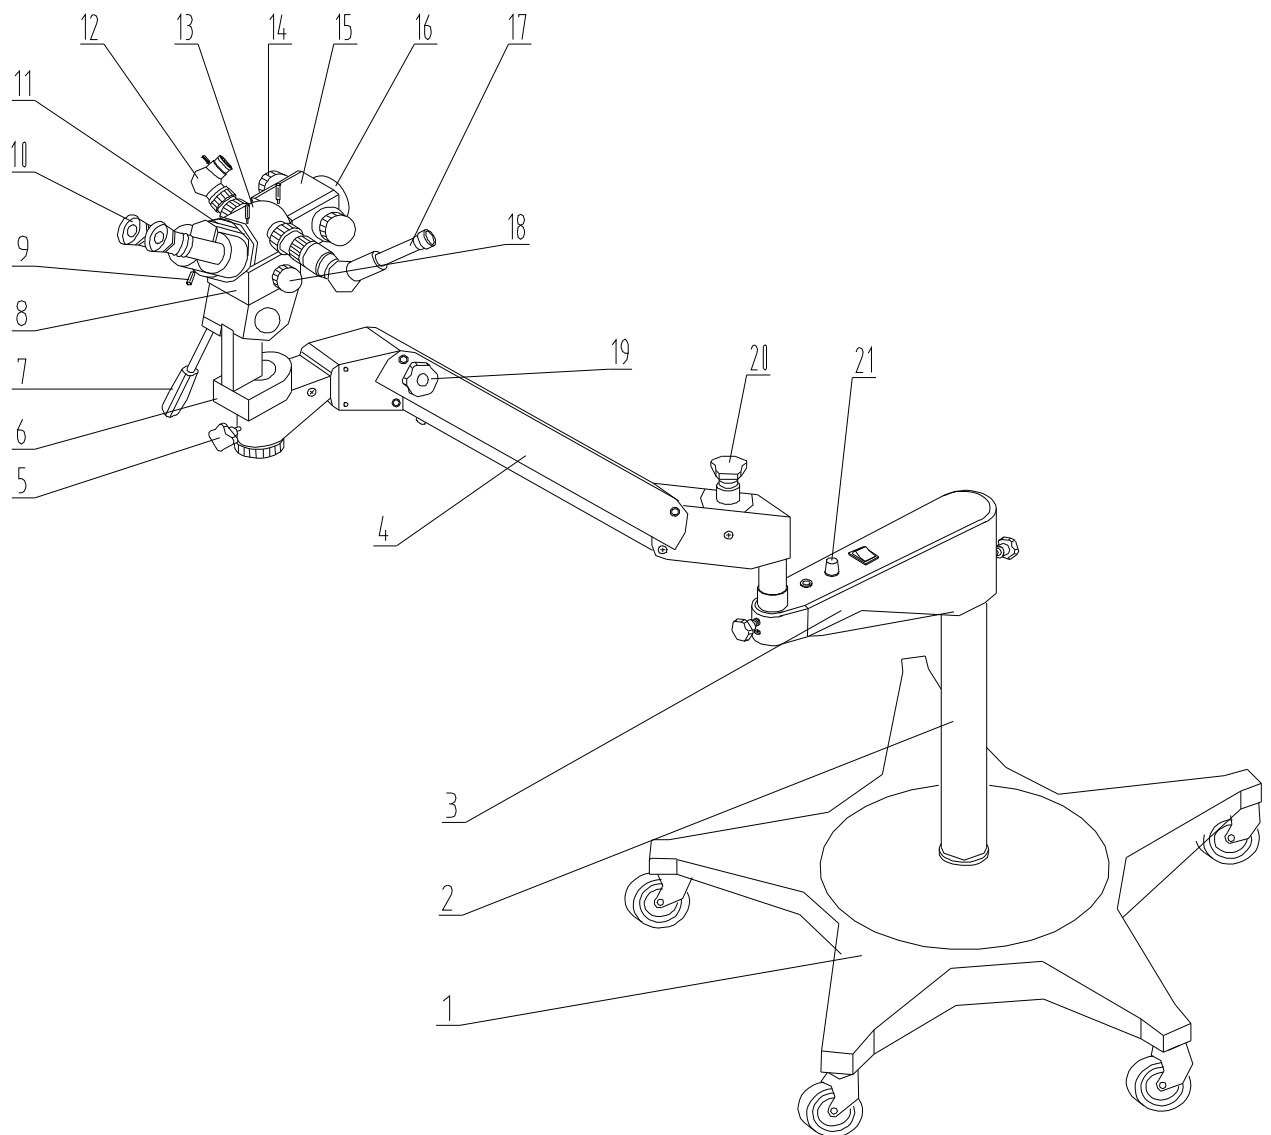

Fig 1 Name of the main parts
2. The Name and function of the main parts (Fig.1.)